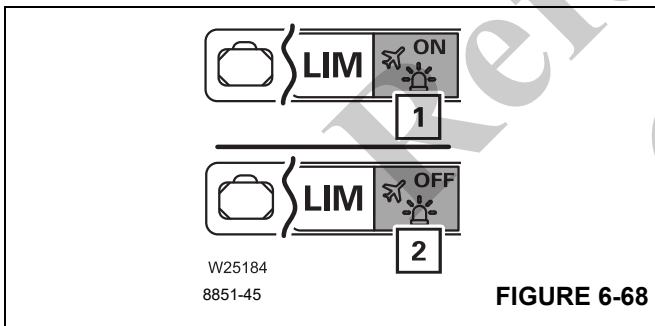

FIGURE 6-68
| To switch ON:  | Select symbol (1), (Figure 6-68) and confirm – symbol ON is displayed  |
| To switch OFF: | Select symbol (2), (Figure 6-68) and confirm – symbol OFF is displayed |